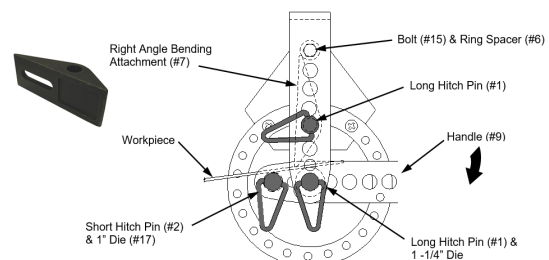

Figure 6-4
- Locate the Right Angle Bending Attachment as shown in fig.6-4. If the handle hits the stock, due to its length, position it to the left of the handle.